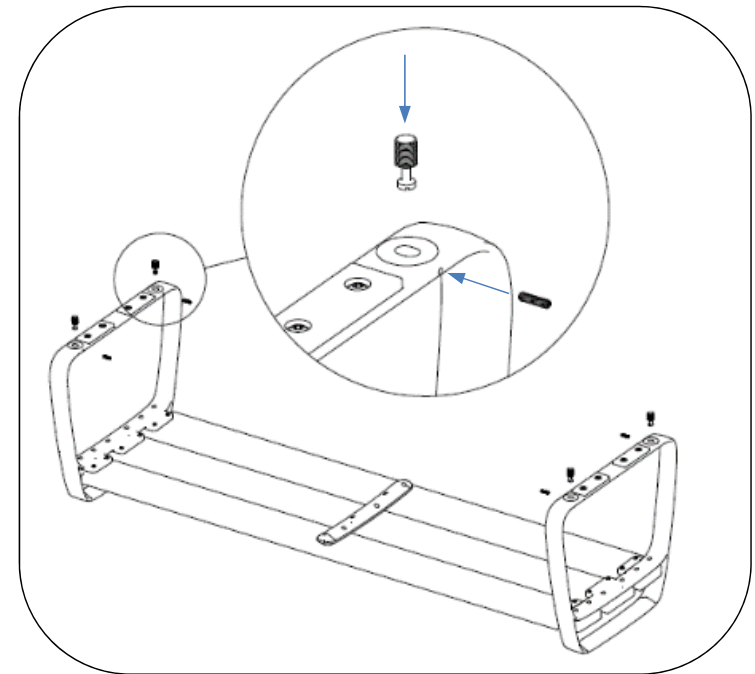

Fig. 4 – Install surface mount bolts and set screws
2. Install surface mount bolts and set screws as shown in Fig. 4.